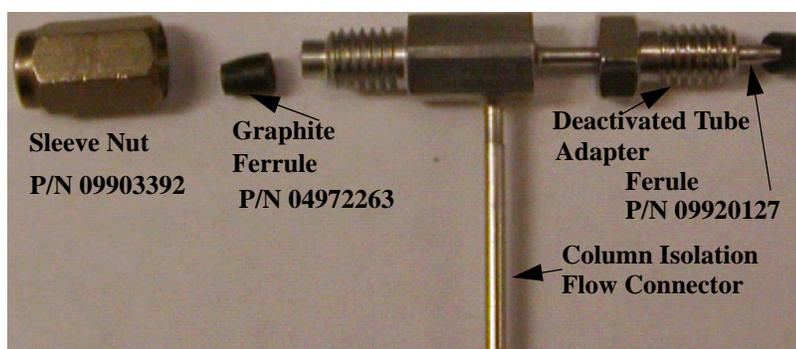

Figure 13 Assembling the Fittings Ahead of the Deactivated Tube Adapter
11. Push the fused silica column into the deactivated tube until it reaches the needle. Slide the ferrule and nut into position and hand tighten. Mark the position on the fused silica at the end of the nut. For the TurboMatrix Headspace, withdraw the fused silica column 1 to 1.5 cm back from the needle and tighten the nut. **For the HS 40/110 trap do not withdraw the column at all.** See Figure 13.